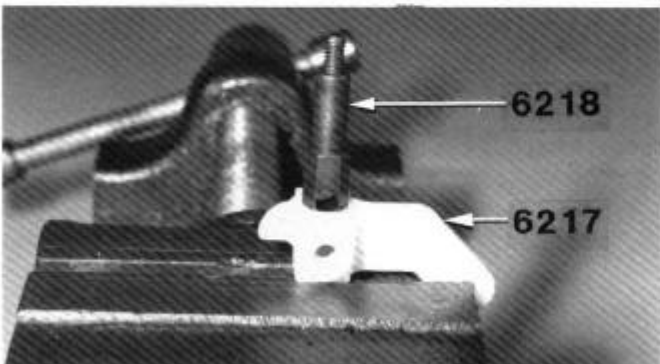

FIG. 10
□ **FIG. 10**—Push the front axle #6218 into the steering block #6217 as shown so the hole in the axle lines up with the hole in the steering block. It may push together with your fingers. If not, LIGHTLY tap it into the hole. Assemble the right hand side in the same way.